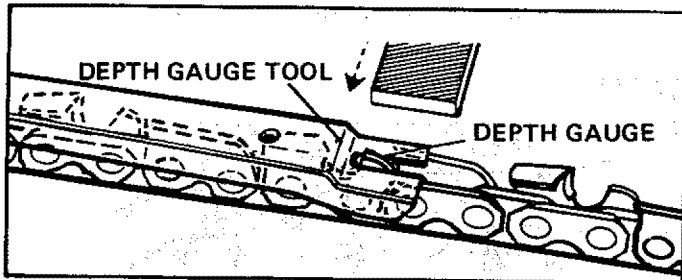

Figure 41
- Place depth gauge (Catalog No. 71-36557) tool over each cutter depth gauge. Figure 41.
- Maintain rounded front corner of depth gauge with a flat file. Figure 41.